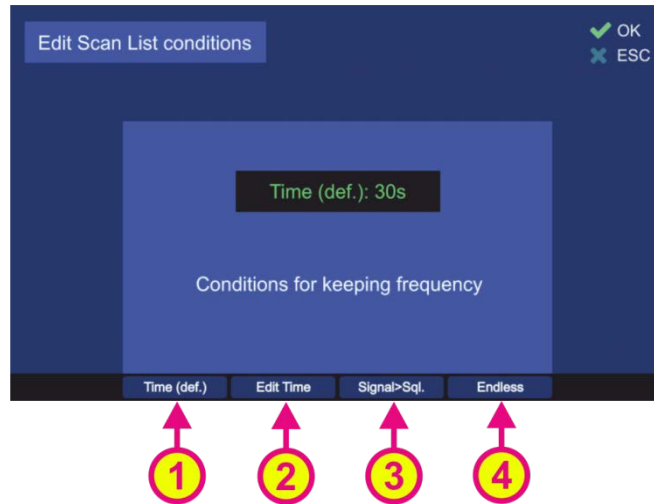

Fig. 57 "Scan List Conditions" dialog
- "Time (def.)" hotkey (s. Fig. 57, position 1) defines the behavior of the "Scan List" algorithm if the active frequency (signal level > squelch level) has been found. If this hotkey is pressed, the default time of 30 seconds will be adopted after confirming this setting with "OK". The scan algorithm will stay for the default time of 30 sec on an active frequency before continuing with scanning of the next frequencies.
- Pressing the hotkey "Edit Time" (s. Fig. 57, position 2) will open a dialog for editing the time of staying on the actively received frequency before continuing with the scan procedure.
- Pressing the hotkey "Signal>Sql." hotkey (s. Fig. 57, position 3) defines the time of staying on the actively received frequency before continuing with the scan procedure. If this setting is confirmed, the scanning procedure will stay on the actively received frequency as long as the signal level is higher than the squelch level.
- If the hotkey "Endless" (s. Fig. 57, position 4) was pressed and confirmed with "OK", the scan algorithm will stay on the actively received frequency as long as the user terminates the scan or skips the current frequency.